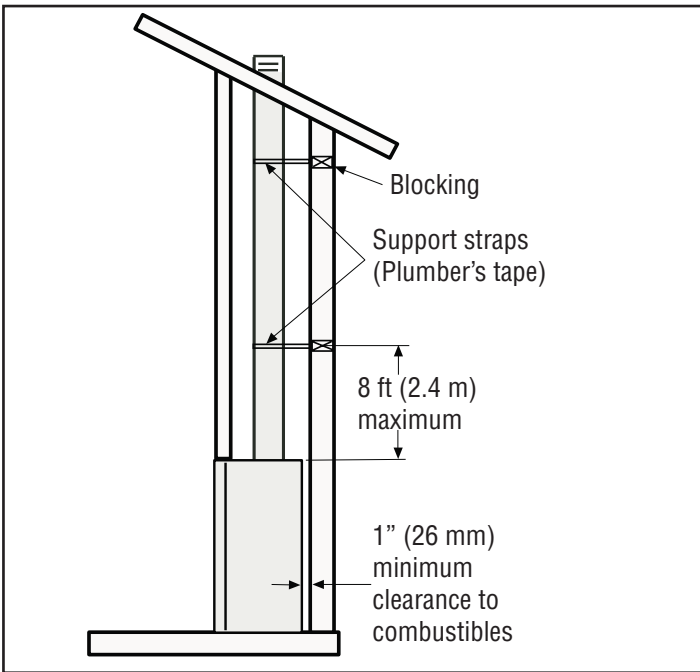

Figure 18 - Supporting the Vertical Vent Run
6. **Support the vertical vent run sections**—Support the vertical portion of the venting system every 8 ft (2.4 m) above the fireplace vent outlet. One method of support is by utilizing field provided support straps (conventional plumber's tape). Secure the plumber's tape to the framing members with nails or screws. Loop the tape around the vent, securing the ends of the tape to the framing. If desired, sheet metal screws #6 x 1/2" length may be used to secure the support straps to the vent pipe (Figure 18, page 20).